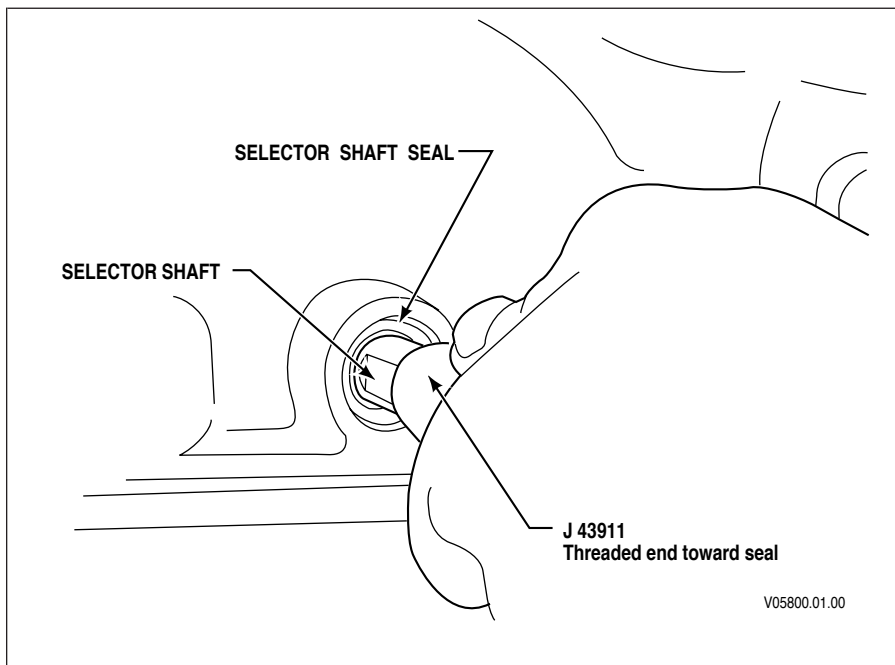

Figure 4-1. Selector Shaft Seal Removal
4. Slide special tool J 43911 over the selector shaft with the threaded end toward the seal. Be sure that the jackscrew is backed off and will not interfere with installation of the removal tool (refer to Figure 4-1). While pushing the removal tool against the seal, rotate the removal tool using a wrench so that the threads on the end of the tool are firmly attached to the steel shell of the seal.